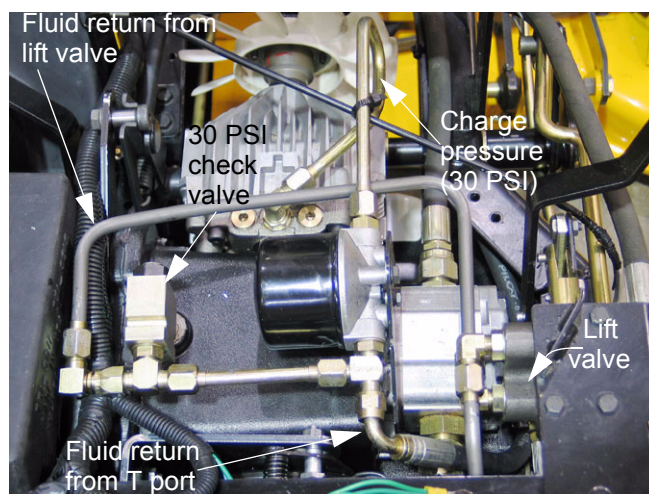

Figure 1.19
1.19. The fluid may pass through the T port, to the return manifold. See Figure 1.19.